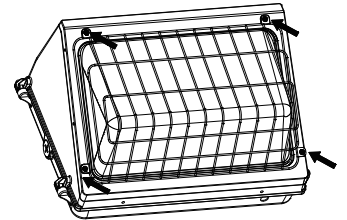

figure 8
3. Tighten the screws. (figure 8)